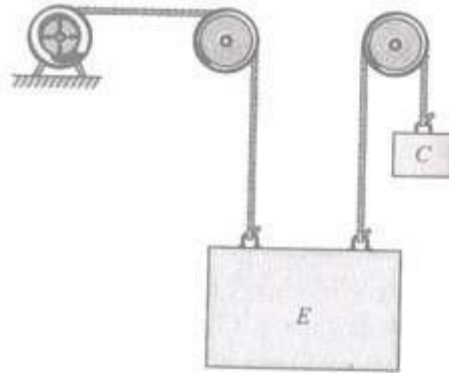

Figure 4
- (OR)
- c. An elevator weighs 10000 N when fully loaded. It is connected to 7500 N counter weight C and is powered by an electric wire as show in the Figure 4. Determine the power required when (i) the elevator is moving upward at constant speed of 20 m/s; (ii) the elevator is moving downward at a constant speed of 20 m/s and (iii) the elevator has an instantaneous velocity of 20 m/s upward and an upward acceleration of 3 m/s². [15M]